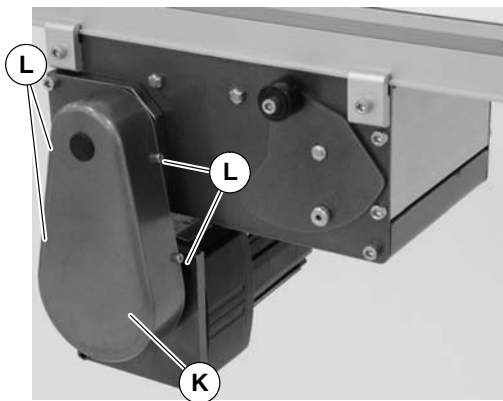

Figure 10
1. Remove four (4) screws (L of Figure 10) and remove cover (K).
4. Install cover (K of Figure 10) with four (4) screws (L). Tighten screws to 35 in-lb (4 Nm).